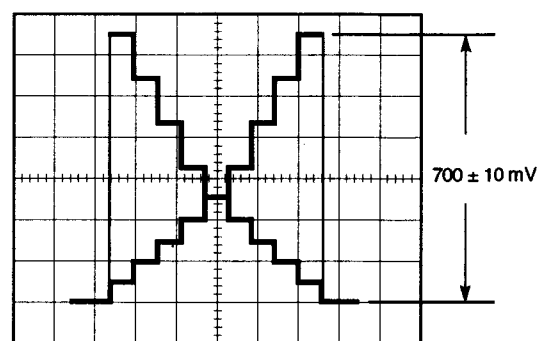

Fig. 5-1-24
- Adjust VR101 so that the Video signal level becomes  $700 \pm 10$  mV as shown in Fig. 5-1-24.
- Adjust VR201 so that the Video signal level becomes  $700 \pm 10$  mV as shown in Fig. 5-1-24.
- Adjust VR301 so that the Video signal level becomes  $700 \pm 10$  mV as shown in Fig. 5-1-24.